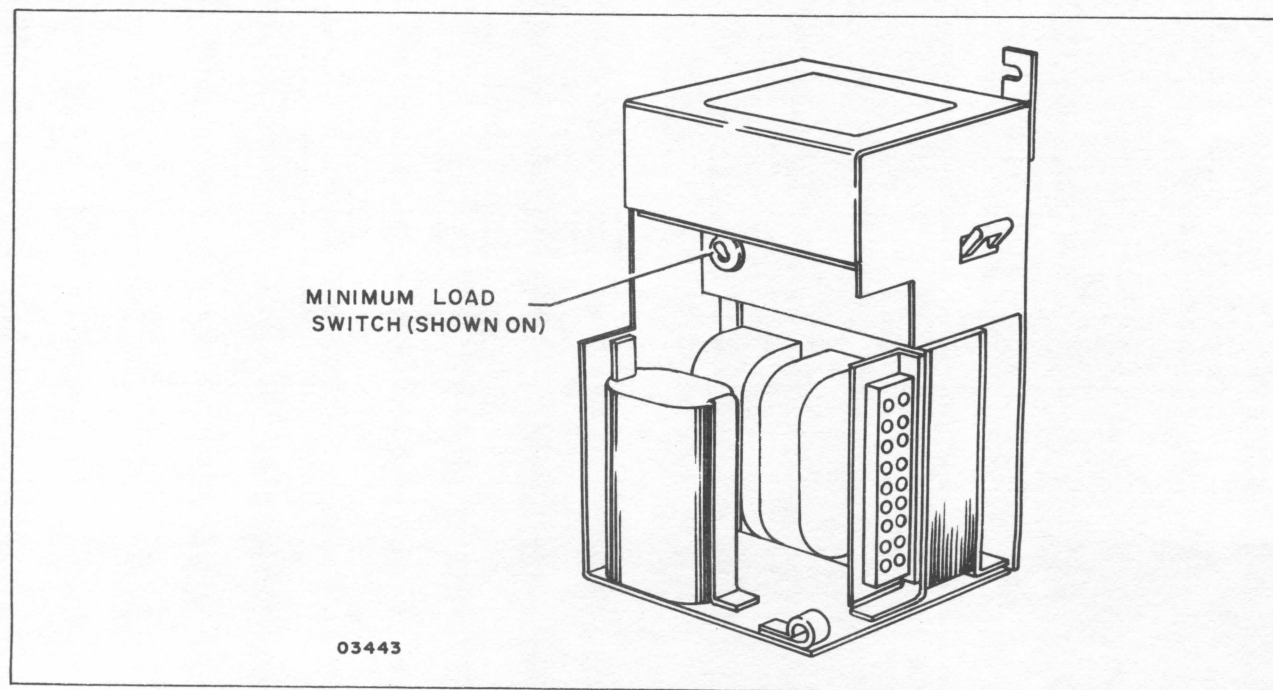

Figure 3-4. Minimum Load Switch, Series/1 Model 4952-A
- Remove the rear cover of the Series/1 power supply and lower the hinged transformer box to view the minimum load switch (see figure 3-4).